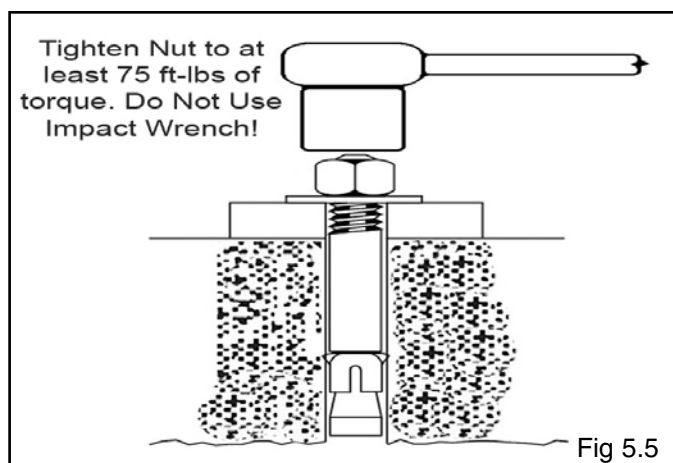

Fig 5.5
7. With the foot guards, shims and anchor bolts in place, tighten by securing the nut to the base then turning 3-5 full turns clockwise. **DO NOT** use an impact wrench for this procedure. (See Fig. 5.5)